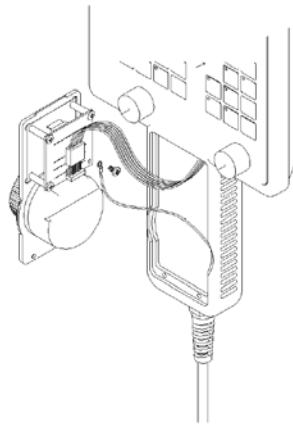

Figure 2
2. Plug the cable located in the M39 pendant into the receptacle located on the back of the MPG Module as pictured in figure 2. Also remove one of the (4) screws holding the circuit board to the module, place the terminal loop over the screw and secure the shield wire and screw back to the circuit board.